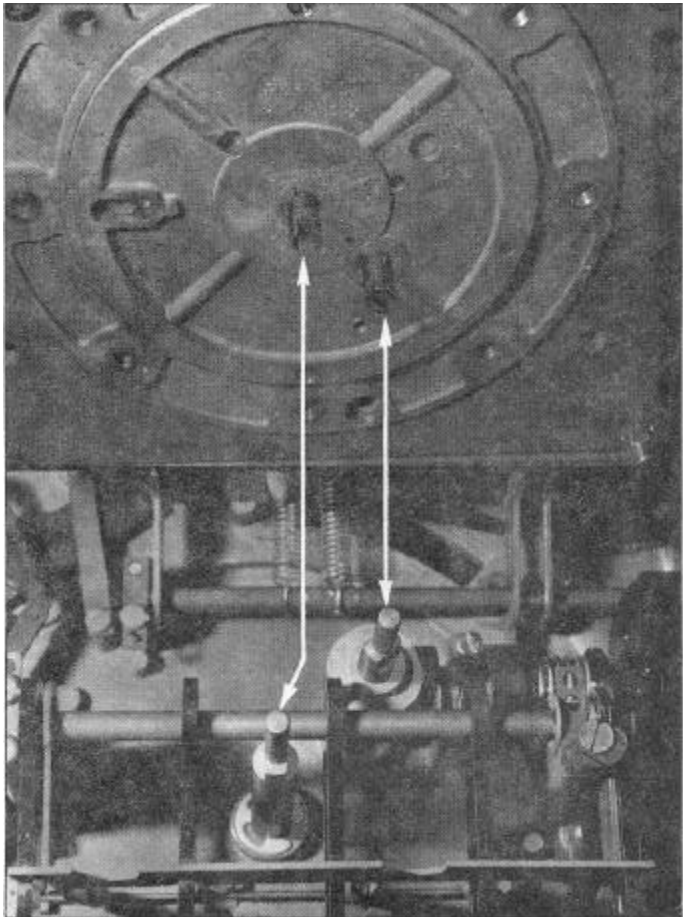

Figure 7. Shaft Alignment Before Installation of Meter Register on Meter Preset.
12. Install the Meter Register on top of the Meter Preset with attention to proper alignment of the two “up-down” shafts (Figures 7 and 8). Secure the units together with the four bolts and a new lockwire.